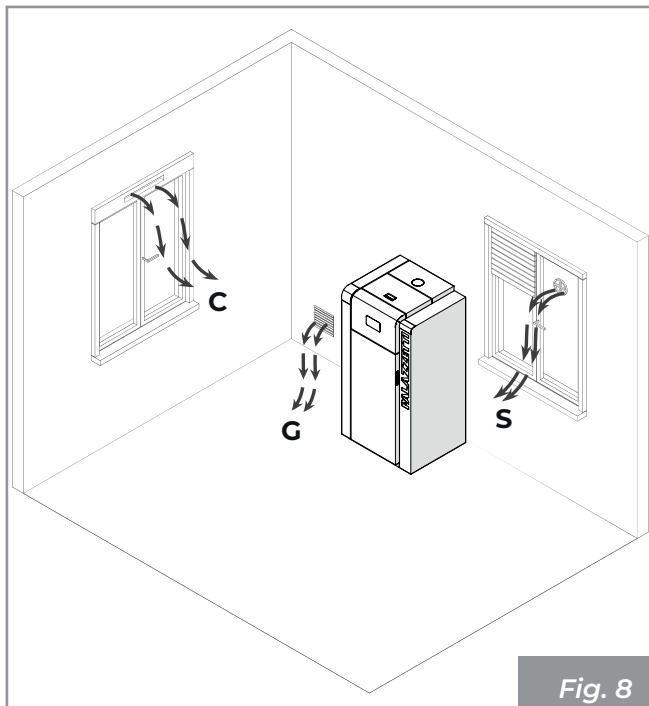

Fig. 8
- it can come from the installation room or from suitable adjacent rooms (**Fig. 7 - Fig. 8**)
If it is not possible to make an external air intake in the room, it is possible to make the external hole in an adjacent room as long as it permanently connects via passage grille (**Fig. 8 - C = Container, G = Grille, S = Damper**).